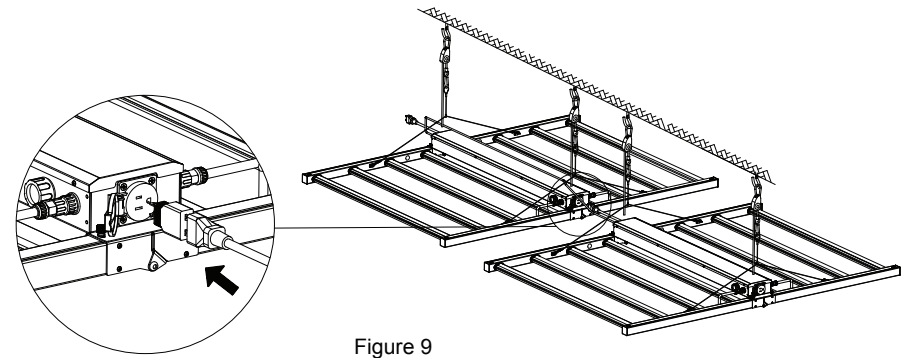

Figure 9
9. If the lamps need to be in parallel, please complete the above steps, then plug the AC input cord into the AC parallel socket (Figure 9)